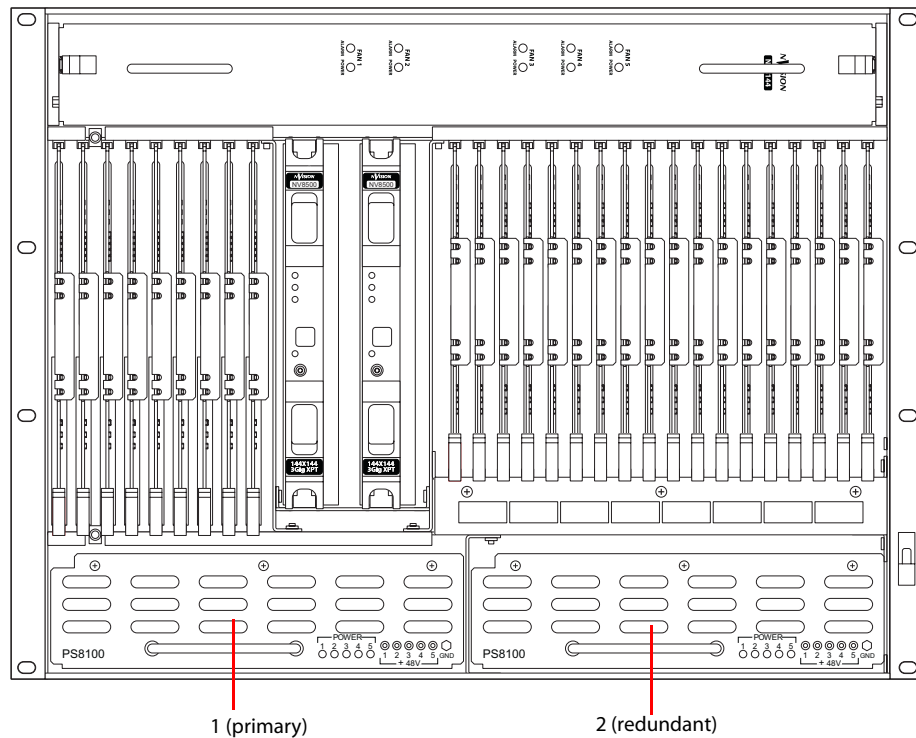

Figure 2-30. NV8144 (Front View)
- a At the front of the router, install a *primary* power supply module in slots 1, as shown in Figure 2-30.